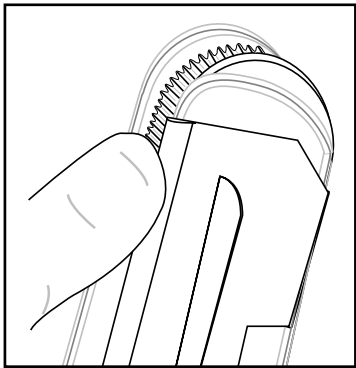

Figure 9.9
- 1. Roll the belts off the pulleys and remove them from the slide assembly (Figure 9.9).